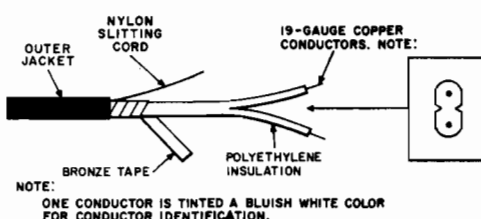

Fig. 5—E Buried Wire
5.02 E buried wire, shown in Fig. 5, consists of two parallel 19-gauge (AWG) annealed copper conductors, insulated with brown-colored polyethylene. An armor of flat bronze tape is applied over the insulated conductors and is covered with an outer jacket of black PVC which is underlaid with a nylon slitting cord. One conductor is tinted a bluish white color for conductor identification.